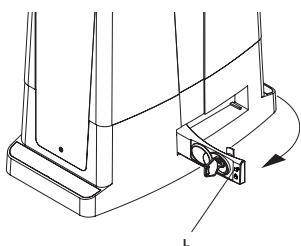

Fig. 1 (BULL)
3. Manually release the gate motor using the key provided and pull the lever (model BULL or YAK) or turn the allen key (model BISON) to disengage the geared motor (see Fig1, 2 and 3). You may feel the motor release from its gear or hear an audible clunk.